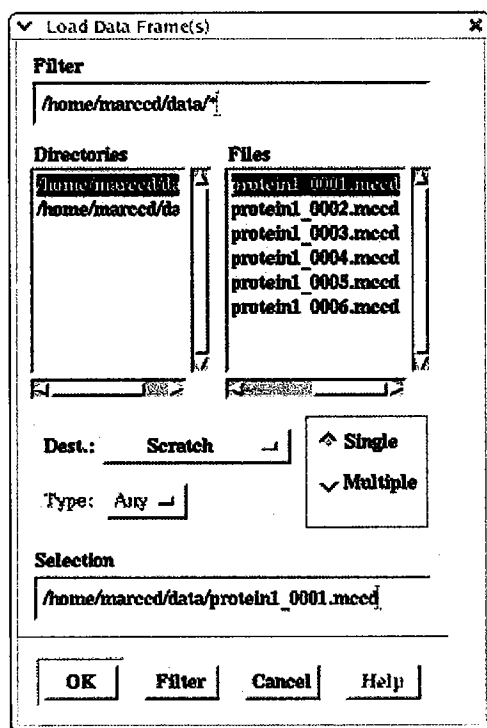

Figure 5 - Load Data Frame(s) dialog
- ⇒ In the menu bar, click File→Load Data Frame(s). The Load Data Frame(s) dialog box will appear as in Figure 5.